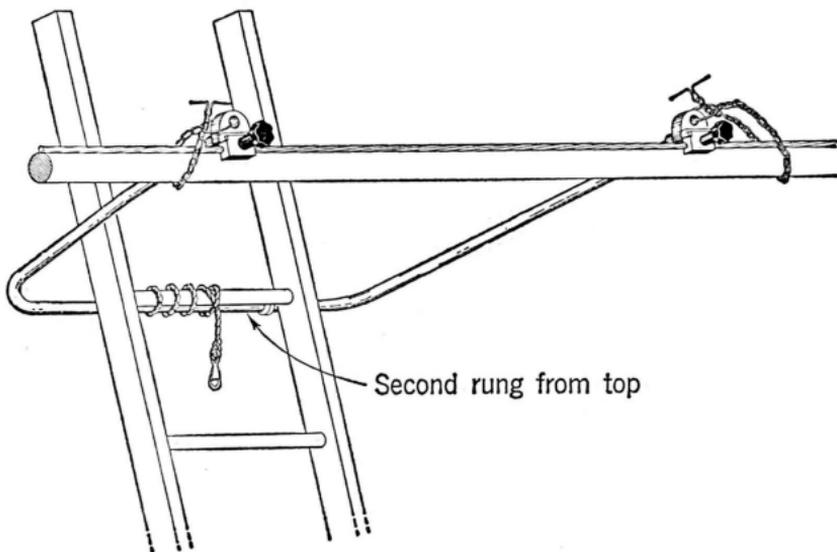

Fig. 3
3.03 Descend the ladder and pull the foot of the ladder backward until the top of the ladder falls below the strand and drops into the support. Then push the ladder forward and adjust its length until the support is at the second rung from the top, as shown in Fig. 3. After making sure that the ladder is at a slope of about one-to-four, place the right side rail in the fitting on the support.
3.04 Climb the ladder, detach the rope from the rung and use it to tie the ladder support to the second rung from the top as shown in Fig. 3.